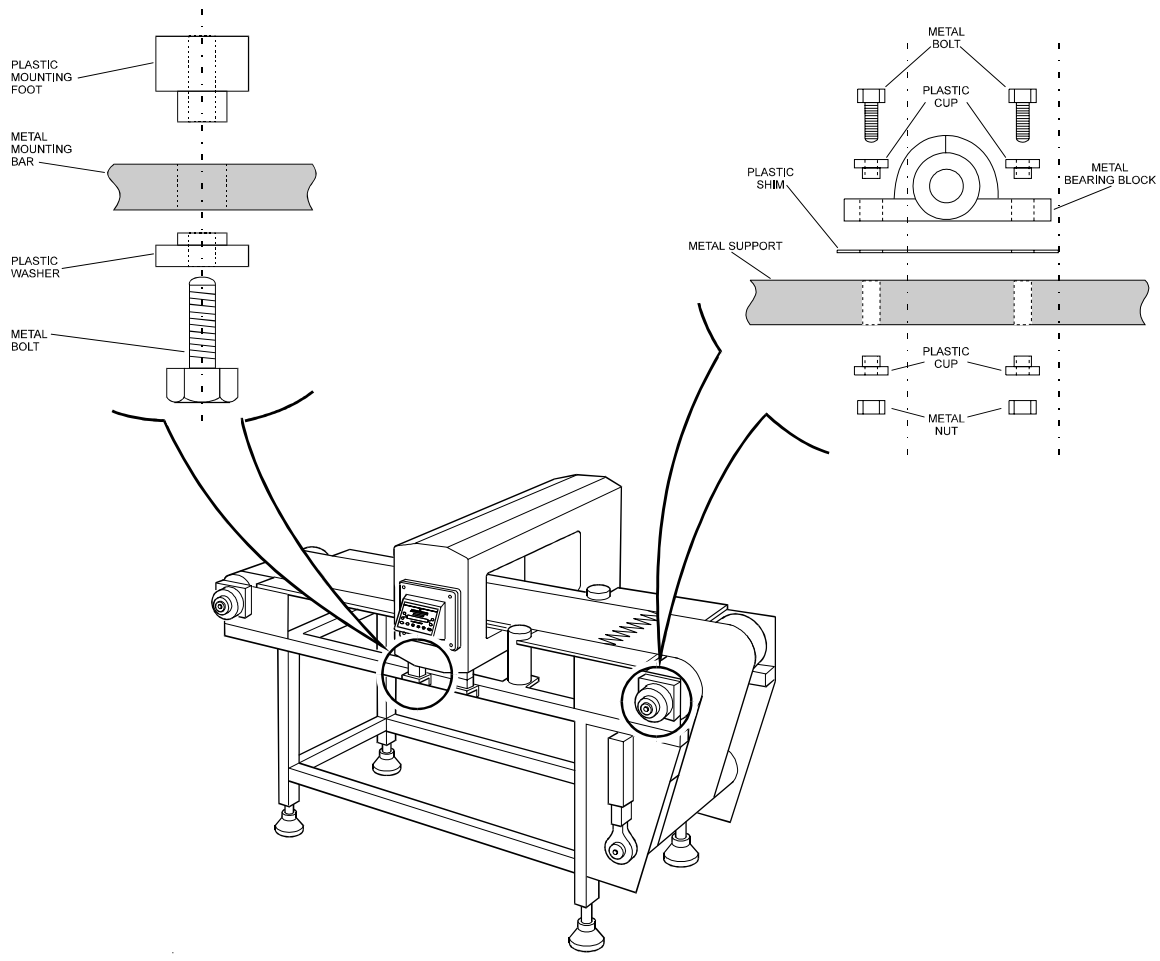

Fig 6 Bearing Block And Mounting Foot Insulation
- This can take the form of a plastic insulation plate and washers on the bearing mounting block or a plastic extension to the end of the roller shaft (see Fig. 6).